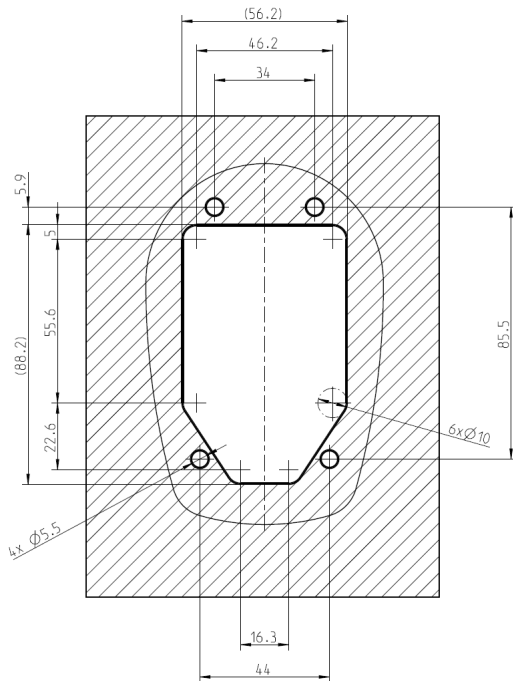

Fig. 2: Panel cutout for Joystick Type 531
1. Prepare a panel cutout by using the drilling template which is included in the delivery (fig. 2).